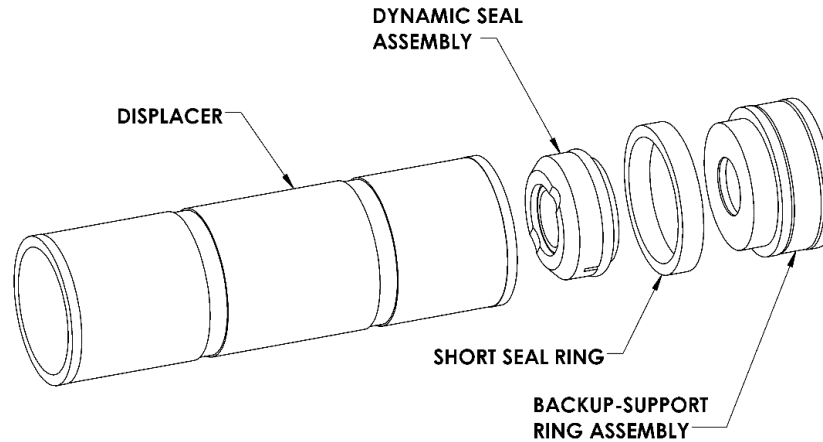
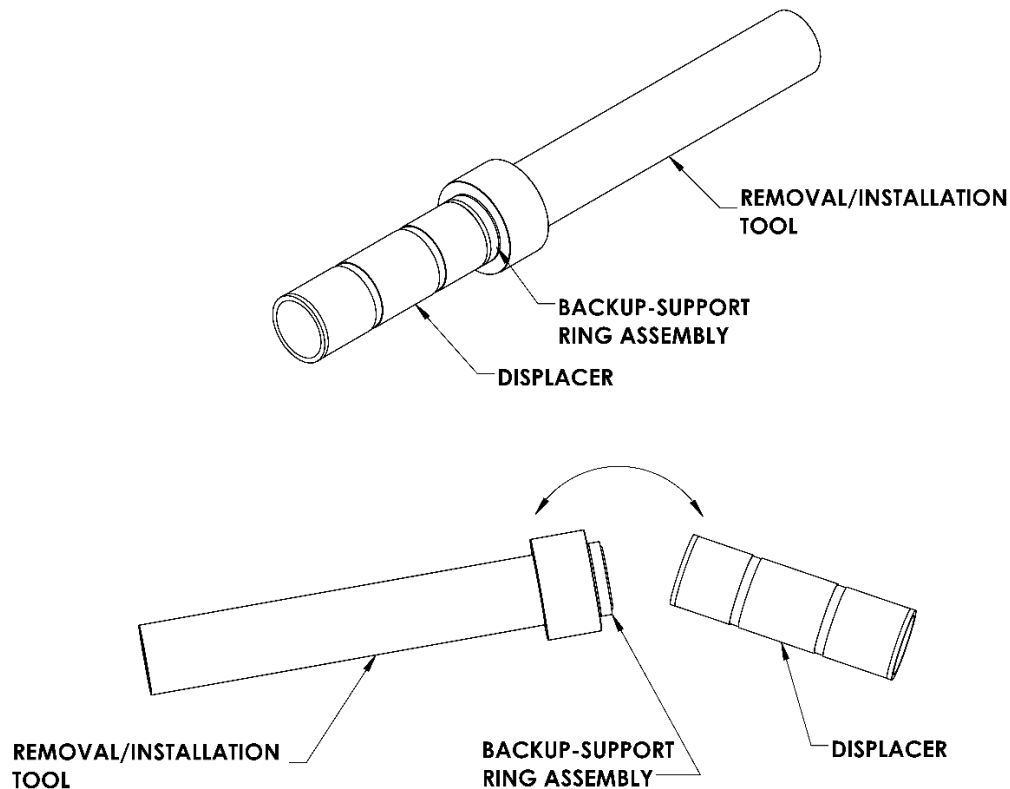

Figure 10 Sealing Assembly Components
Figure 12 Separating the Backup-Support Ring Assembly from the Displacer
4. **Use** an arbor press and the removal/installation tool to **push out** the sealing assembly components from the cylinder. (See **Figure 10**.) Push the assembly *from* the check valve end *toward* the coolant housing assembly end. Repeat for remaining cylinders.
5. **Separate** the backup-support ring assembly (see **Figure 10** on previous page) from the displacer by **placing** the large end of the removal/installation tool (see **Figure 12** below) over the backup-support ring assembly and **breaking loose** the short seal ring from the displacer.
6. The backup-support ring assembly (see **Figure 15** on page 19) is machined together as one assembly. The outer support ring must then be **pressed onto** the inner backup ring. These parts should not be separated. The short seal ring (see **Figure 10** on previous page) should be easily removable by hand. **Remove** the short seal ring from all three backup-ring assemblies.
7. Before removal of the dynamic seal assembly (see **Figure 10** on previous page) from the displacer, **inspect** the dynamic seal for extrusion (see **Figure 13** on next page). Extrusion of seal material around the edges of the bore in the dynamic seal is to be expected. Uneven, missing material and/or from one side of the face of the dynamic seal indicates a failed seal with potential plunger damage caused by the plunger abrading on the bore of the backup ring. If excessive or uneven material is missing or extruded, closely **inspect** the backup-support ring assembly for signs of rubbing.